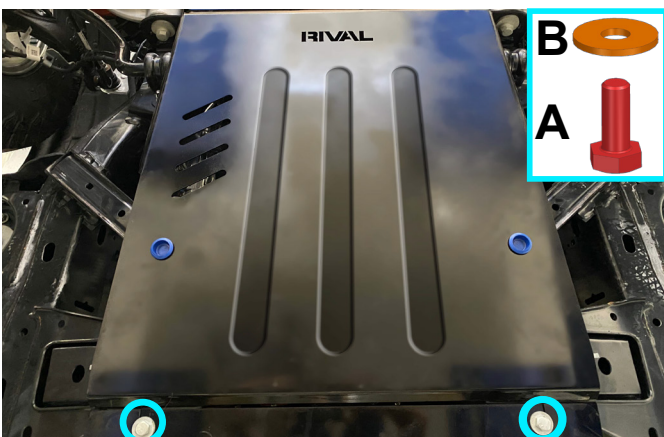

Fig. 5
5. Fix the rear part of gearbox skid plate (item 1) to brackets (item C), using bolts M10x25 (item A) and washers 10 (item B), as shown in fig.5.